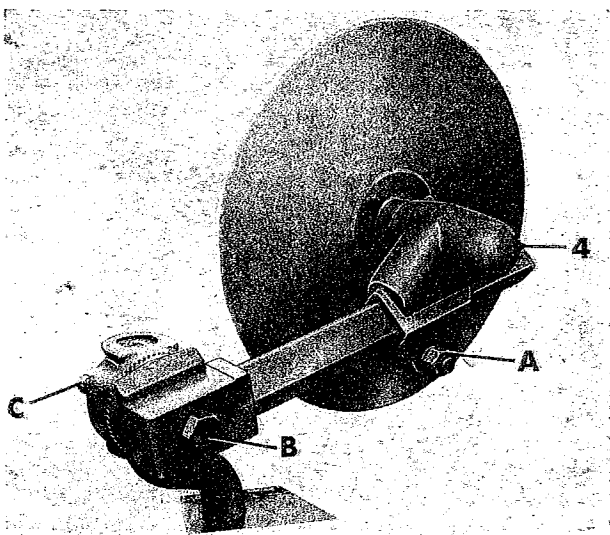

Fig. 3
- (4) (Fig. 3). Disc coulters - every 4 working hours.
9. DISC COULTERS (Fig. 3)